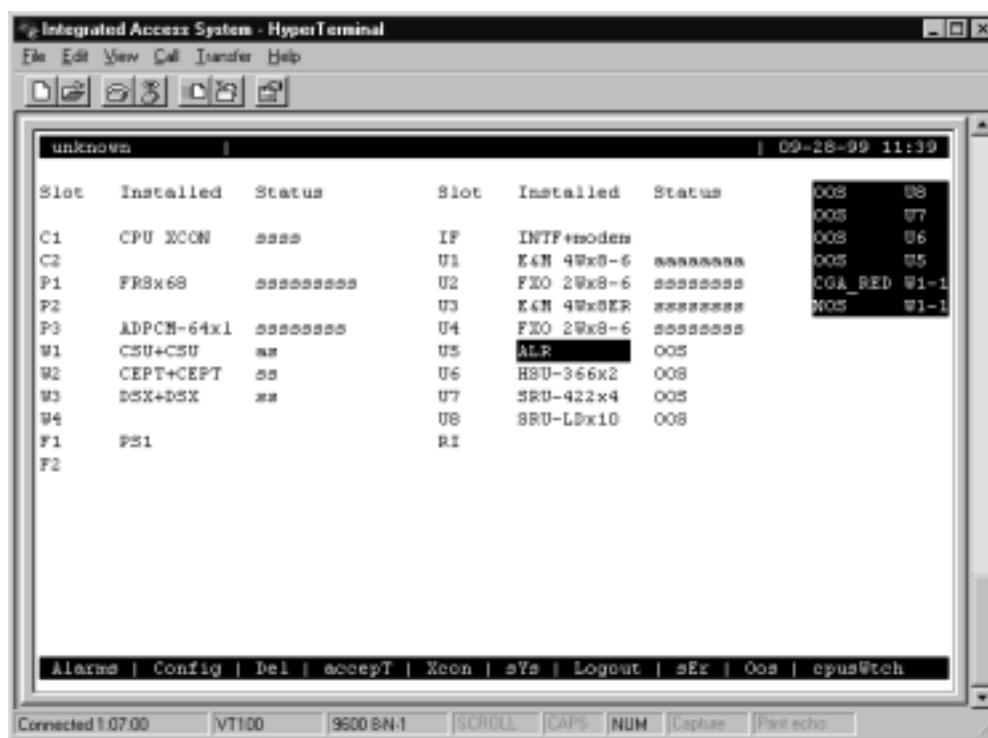

Figure 5-45. Typical System Main Screen with Alarms
6. The system automatically builds the necessary time slot structure. Since the user slots are vacant, the system will register Out Of Service (OOS) alarms for each of the four cards, as shown in Figure 5-45.